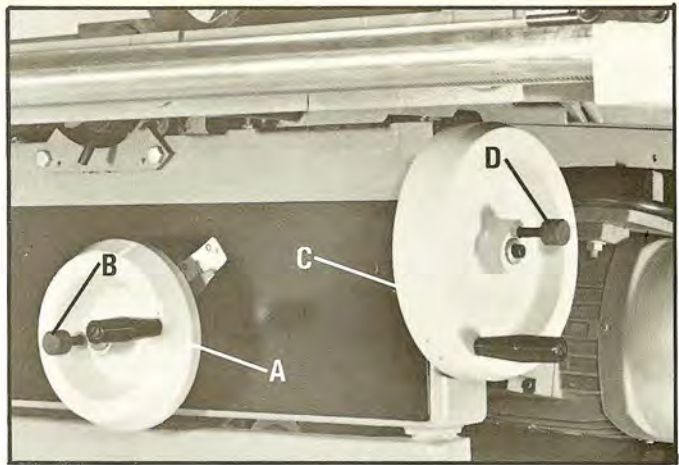

Fig. 36
To raise or lower the saw blade, loosen lock knob (B) Fig. 36, and turn handwheel (A). When the saw blade is at the desired height, tighten lock knob (B).
To tilt the saw blade, loosen lock knob (D) Fig. 36, and turn handwheel (C). The saw blade can be tilted to any position up to 45 degrees. When the saw blade is at the desired angle, tighten lock knob (D).